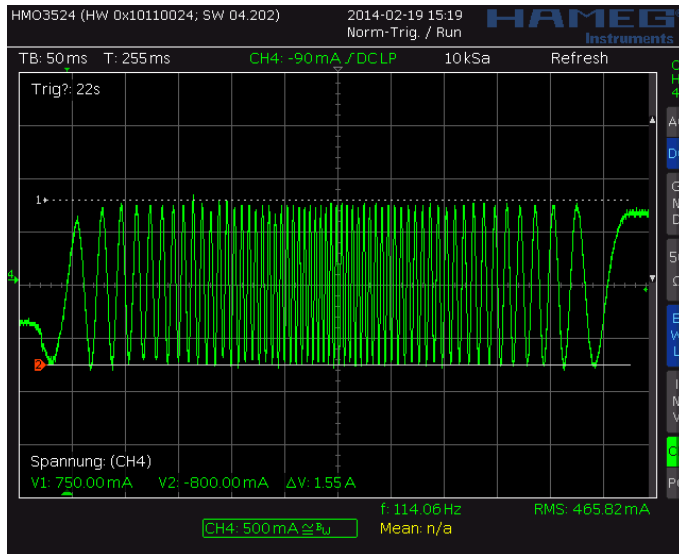
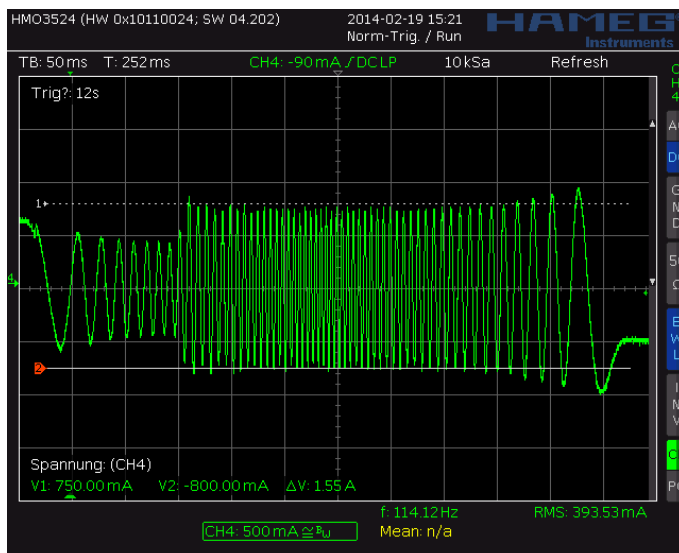
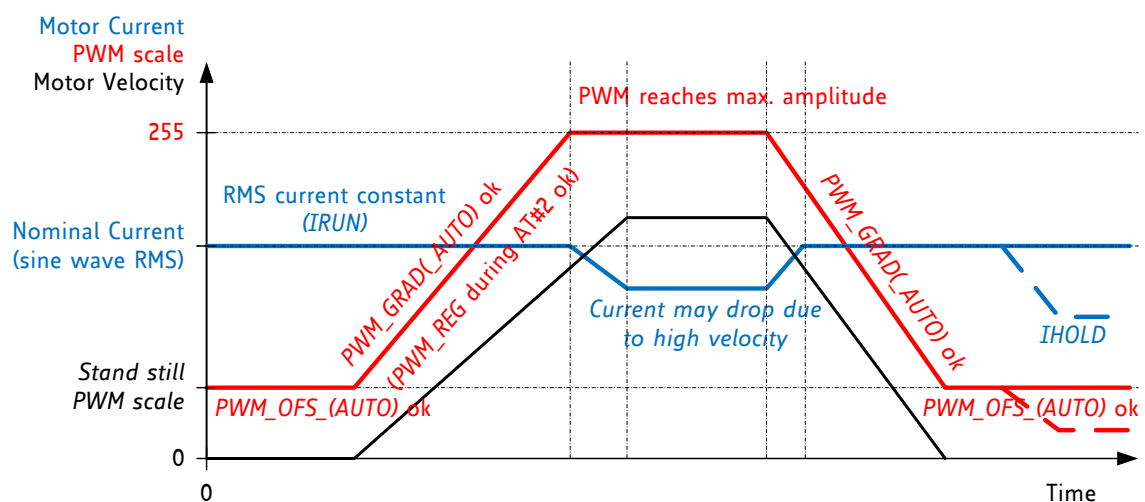

Figure 6.3 Scope shot: good setting for PWM_REG
Figure 6.4 Scope shot: too small setting for PWM_REG during AT#2
Figure 6.5 Successfully determined PWM_GRAD(AUTO) and PWM_OFs(AUTO)
In StealthChop voltage PWM mode, the autoscaling function (*pwm_autoscale* = 1, *pwm_autograd* = 1) regulates the motor current to the desired current setting. Automatic scaling is used as part of the automatic tuning process (AT), and for subsequent tracking of changes within the motor parameters. The driver measures the motor current during the chopper on time and uses a proportional regulator to regulate *PWM_SCALE_AUTO* in order match the motor current to the target current. *PWM_REG* is the proportionality coefficient for this regulator. Basically, the proportionality coefficient should be as small as possible in order to get a stable and soft regulation behavior, but it must be large enough to allow the driver to quickly react to changes caused by variation of the motor target current (e.g. change of VREF). During initial tuning step AT#2, *PWM_REG* also compensates for the change of motor velocity. Therefore, a high acceleration during AT#2 will require a higher setting of *PWM_REG*. With careful selection of homing velocity and acceleration, a minimum setting of the regulation gradient often is sufficient (*PWM_REG*=1). *PWM_REG* setting should be optimized for the fastest required acceleration and deceleration ramp (compare Figure 6.3 and Figure 6.4). The quality of the setting *PWM_REG* in phase AT#2 and the finished automatic tuning procedure (or non-automatic settings for *PWM_OFS* and *PWM_GRAD*) can be examined when monitoring motor current during an acceleration phase Figure 6.5.